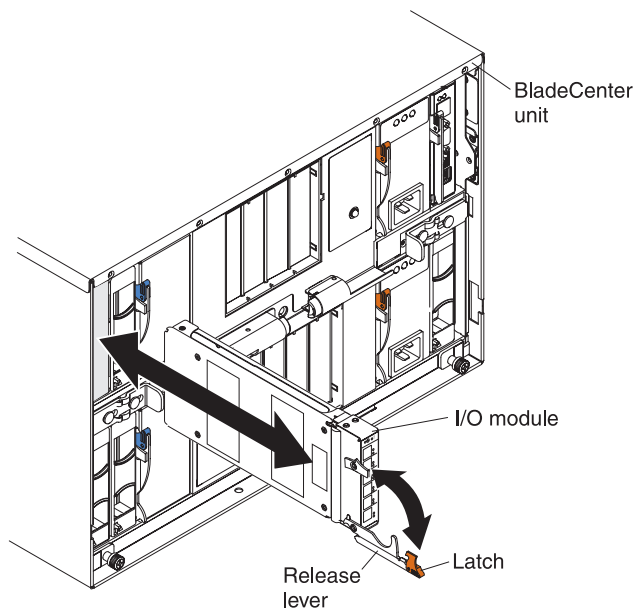

Figure 2. Installing the I/O module
9. Make sure that the release latch on the I/O module is in the open position (perpendicular to the I/O module), as shown in the illustration in Figure 2.